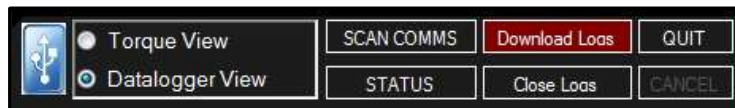

Figure 5.3-1: Download Logs Button
1. Press the **"Download Logs"** button on the Main Screen (Figure 5.3-1).